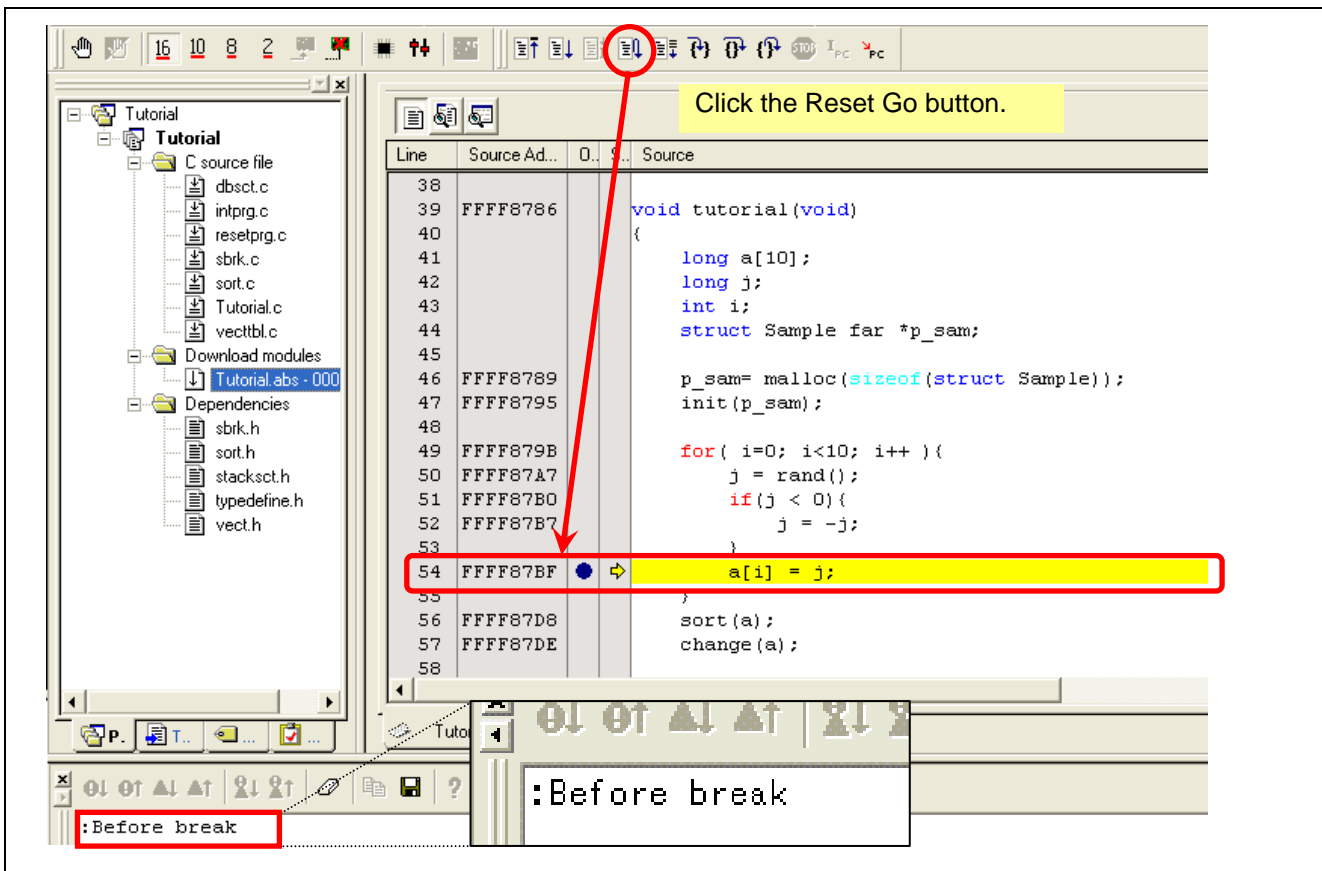

Figure 4.20 Execution Stopped at a Breakpoint
(2) Click the [Reset Go] button as shown in Figure 4.20 to start program execution.
The line corresponding to the program counter address where execution stops is highlighted in yellow as shown in Figure 4.20 and ":Before break" is displayed in the output window, which indicates that execution has stopped due to a break.